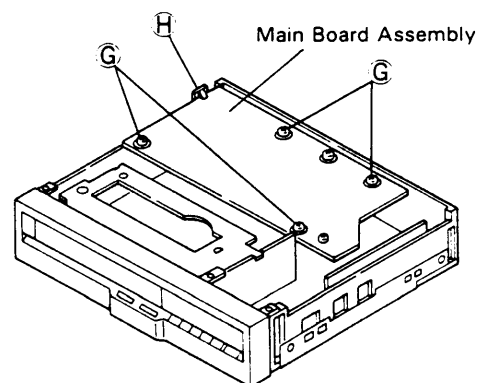

Fig. 1-1-4
2. Refer to Fig. 1-1-4 and take out 4 screws (G) and 1 claw (H) from main board assembly.